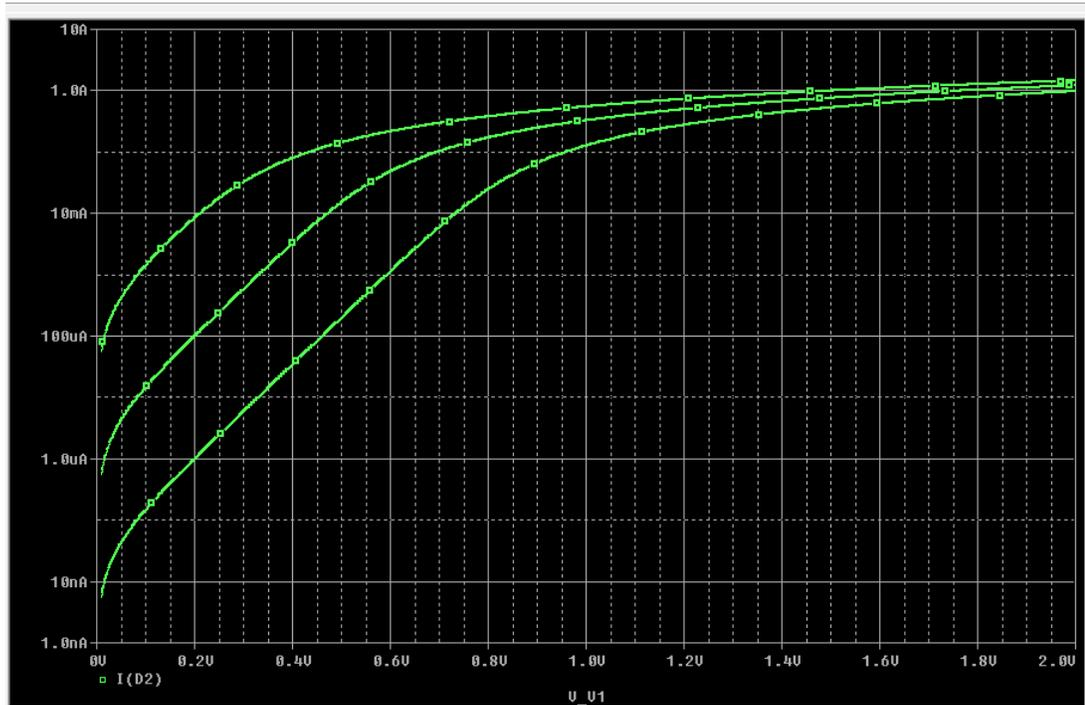

Figure 5: Effect of varying IS parameter value for a schottky diode
Fig. 5 shows the effect of varying IS parameter. You can see that as IS decreases, for the same Forward Current (I) we get greater Forward bias Voltage (V).